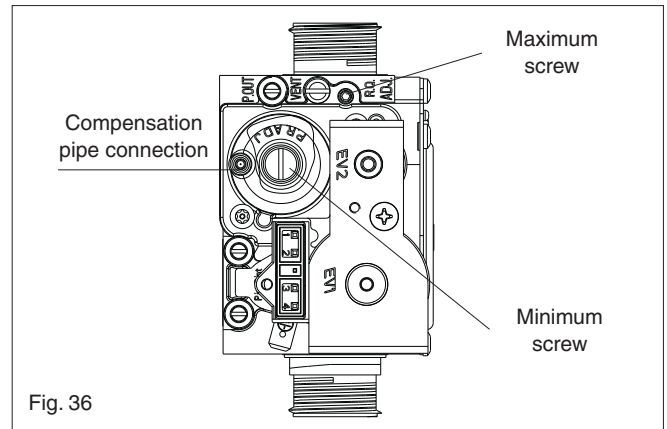

Fig. 36
- Using a 2,5mm Allen key, very slowly turn the minimum adjustment screw (see fig. 36) – clockwise to increase, counter clockwise to decrease - until the correct value is displayed on the CO2 analyser (allow time for the analyser to stabilise).